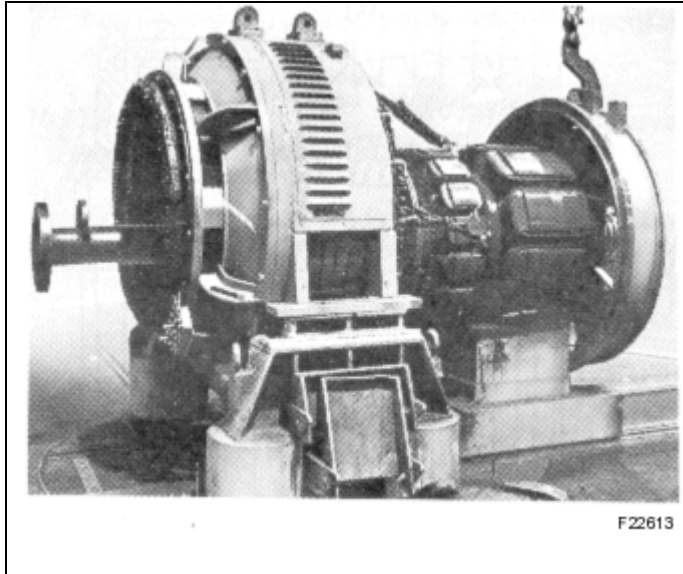

Figure 41 Preparation to Install Rotor in Stator
5. Place stator assembly and rotor assembly on their stands close enough to each other so that when the arbor fixture is placed in the flange bore of the companion alternator rotor, the end of the fixture protrudes through the stator assembly, as shown in Figure 41.